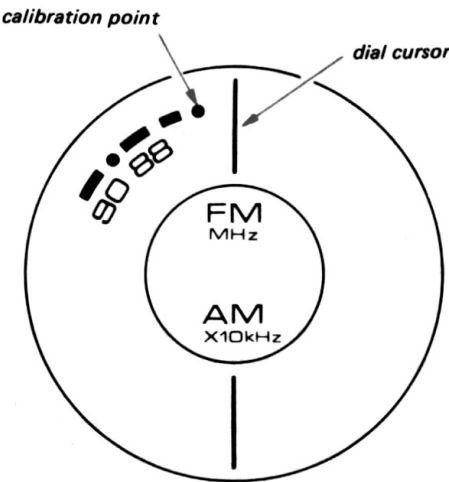

Fig. 2-10. Detail of finish point
- 3. Turn the drum to the position where the dot mark on the dial scale (close to 88 MHz mark) coincides with the dial-cursor line. See Fig. 2-10.